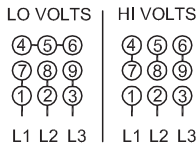

Figure 5 — 3-Phase Wiring Diagram
- a. Mount (1) piece of the 3/4 inch square tubing to the end of each of the (4) rods using (2) steel hex flange lock nuts as shown in Figure 5. Tighten firmly (be sure nuts do not loosen when assembling the clamping nut at the front face of the radiator).
- c. Mount the fan eyelet over the nut followed by (1) mounting bracket, washer and nut.